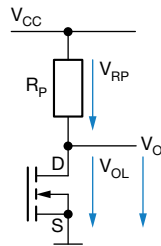

Fig. 3 - Voltage Divider
When the data line (TX) is pulled down to the logic “L” stage, a voltage divider is formed by the pull-up resistor (R_P) and the internal NMOS drain source junction. The output voltage (V_O) is the voltage drop of the NMOS output (V_{OL}), as shown in Fig. 3.
For the logic “H” stage, pull-up resistors (R_P , as shown in Fig. 3) are required and can be calculated for the required output current (I_O) with Equation 5 below: